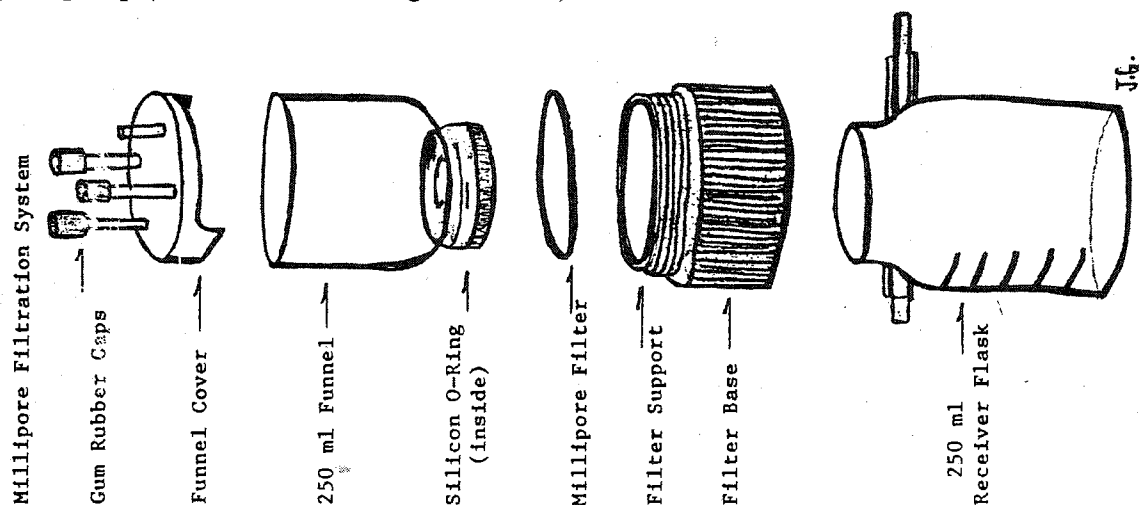

Figure 1. Millipore Filtration Apparatus
1. Assemble the Millipore Filtration Apparatus as shown in Fig. 1 on page 12.